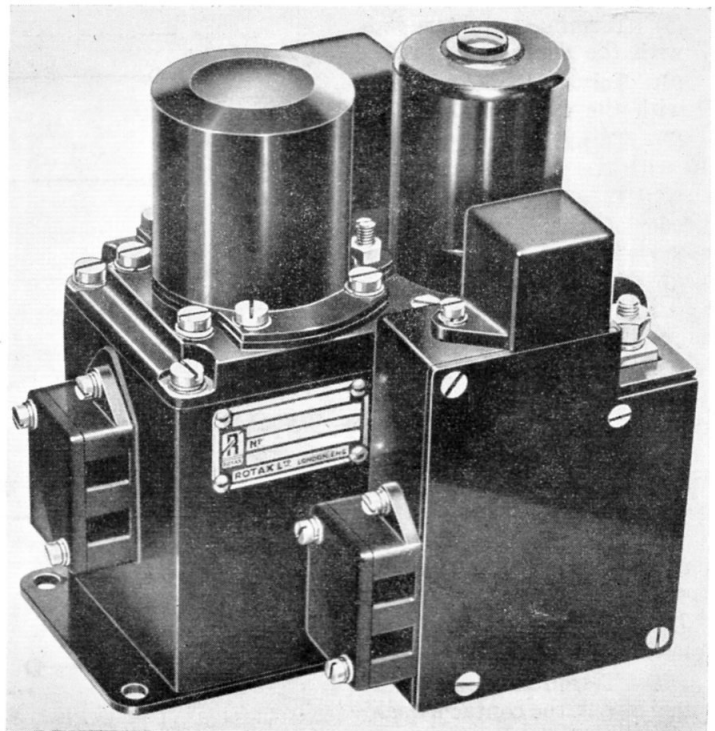

Fig. 1. General view of type 14A switch
2. The Type 14A, No. 1 magnetic switch (*fig. 1*) is similar in construction to those described in A.P.4343, Vol. 1, Sect. 11, Chap. 16. The units provide two pairs of auxiliary contacts in addition to the main 112 volt contacts. It is not fitted with a bi-metal element or economy resistance.